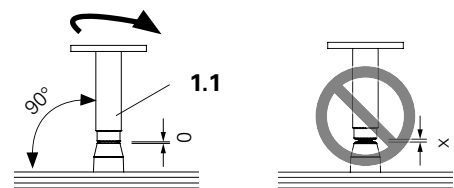

Fig. A5.02b
4. Screw in Anchor Sleeve M24 (1.1) as far as possible, at 90° to the formlining. (Fig. A5.02b)